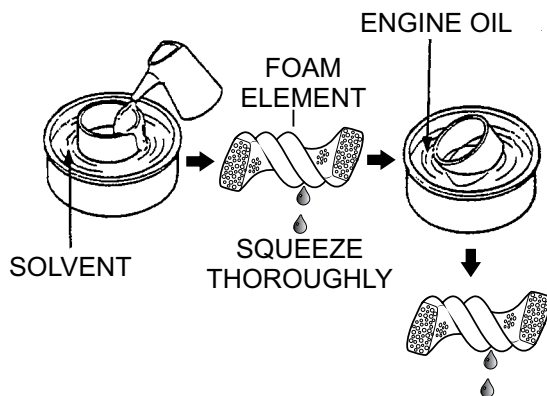

Figure 37. Cleaning Foam Element
3. Clean foam element (Figure 37) in warm, soapy water or non-flammable solvent. Rinse and dry thoroughly.